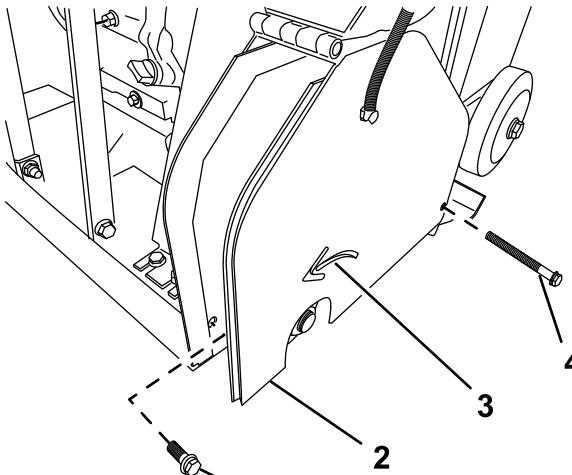

Figure 32
- A. Using a wrench from the machine, remove the forward bolt and washers, located inside the belt guard, that secure the guard to the base of the machine (Figure 32).
- B. Support the belt guard and remove the rear bolt and washers that secures the guard to the base. Remove the guard (Figure 32).